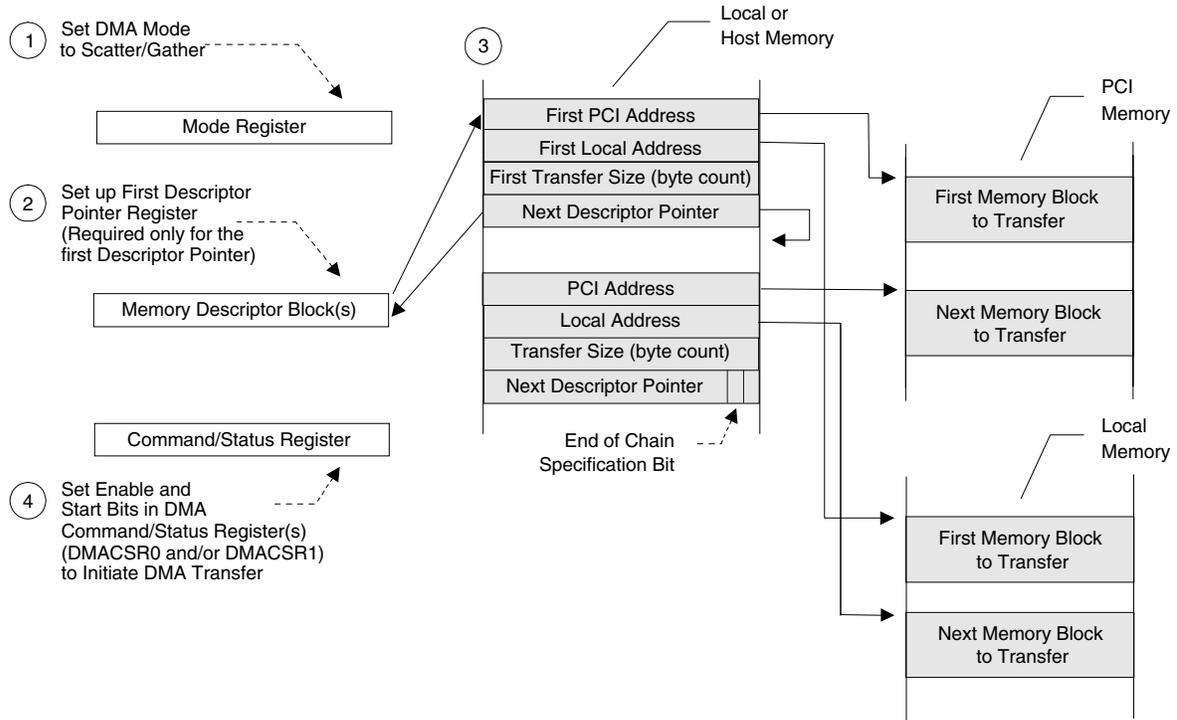

Figure 5-17. Scatter/Gather DMA Mode Descriptor Initialization [PCI SAC/DAC PCI Address (DMADAC0 and/or DMADAC1) Register Dependent]
- DMADAC0 and/or DMADAC1 contain(s) a non-zero value. DMAMODE0[18] and/or DMAMODE1[18] is set to 0. The PCI 9056 performs a Single Address Cycle (SAC) four-Lword descriptor block load from PCI memory and DMA transfer with DAC on the PCI Bus. (Refer to Figure 5-17.)